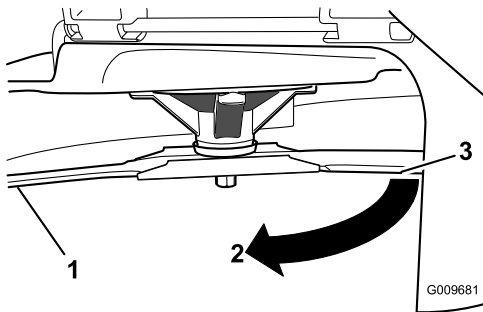

Figure 64
3. Measured distance between blade and the surface (A)
4. Rotate the same blade 180 degrees so that the opposing cutting edge is now in the same position (Figure 64).